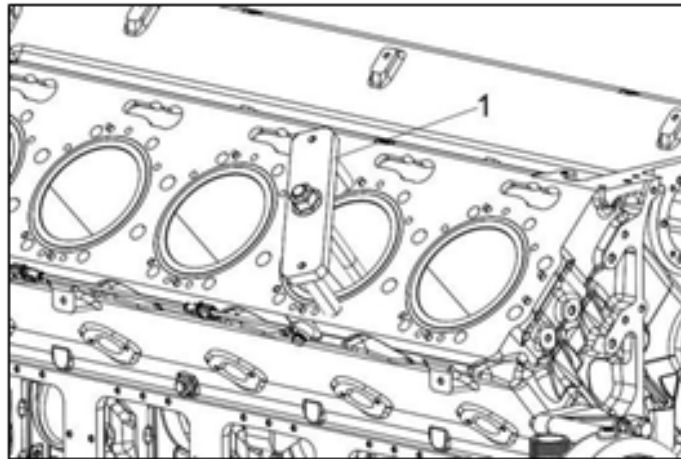

Figure 102.
2. Install the extraction tool (Figure 102, item 1).